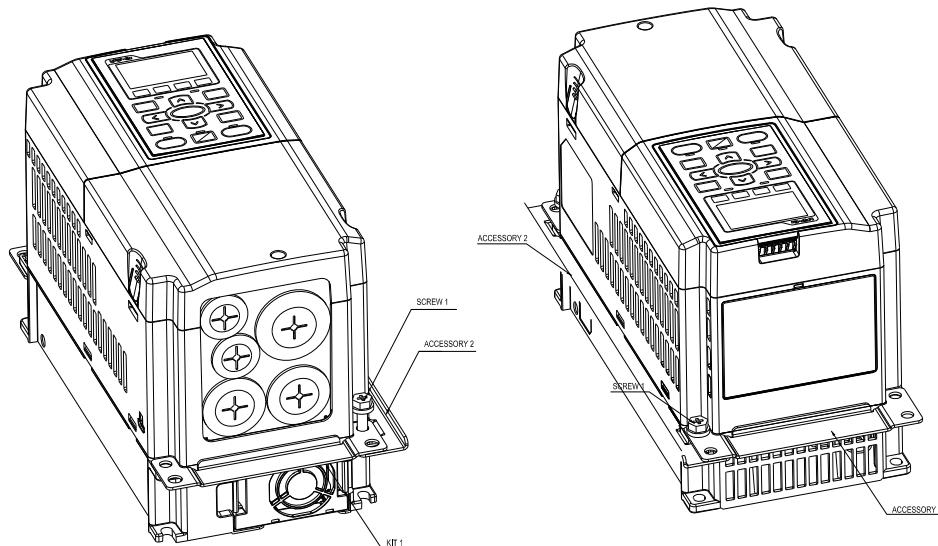

Figure 1
- Fasten screw*2(M6) and accessory 2 &3. Screw torque: 25~30kg-cm (21.7~26lb-in). (figure 1)